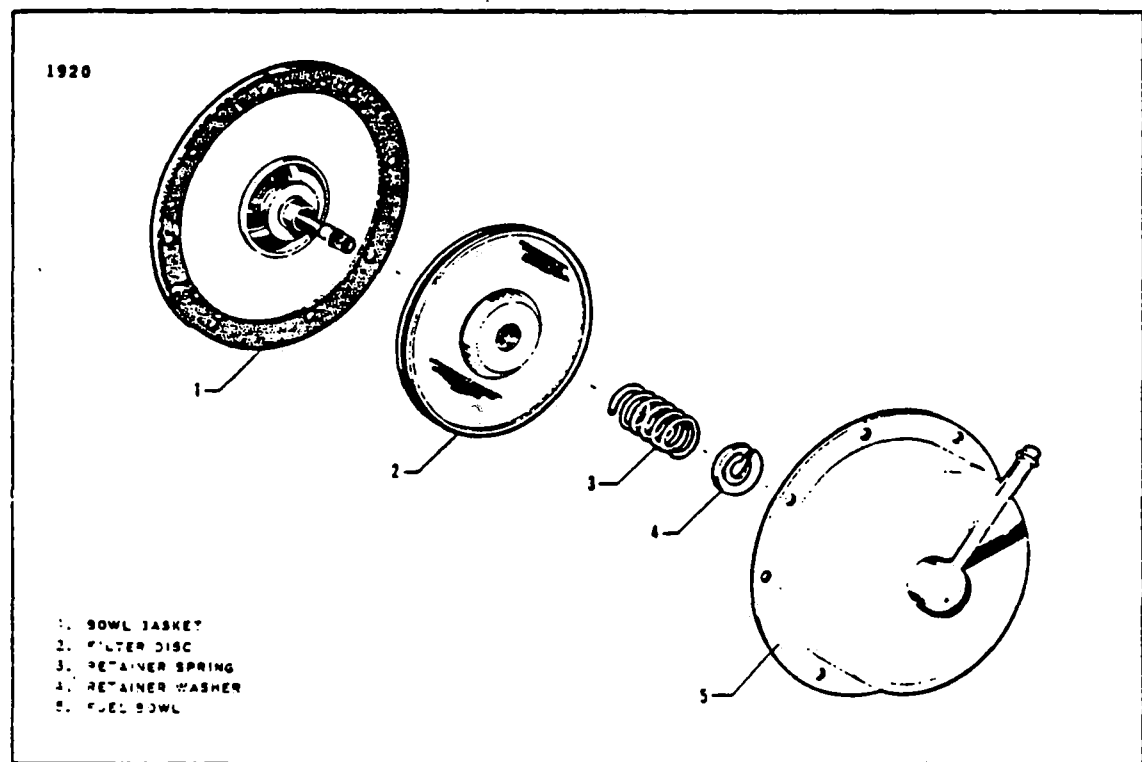
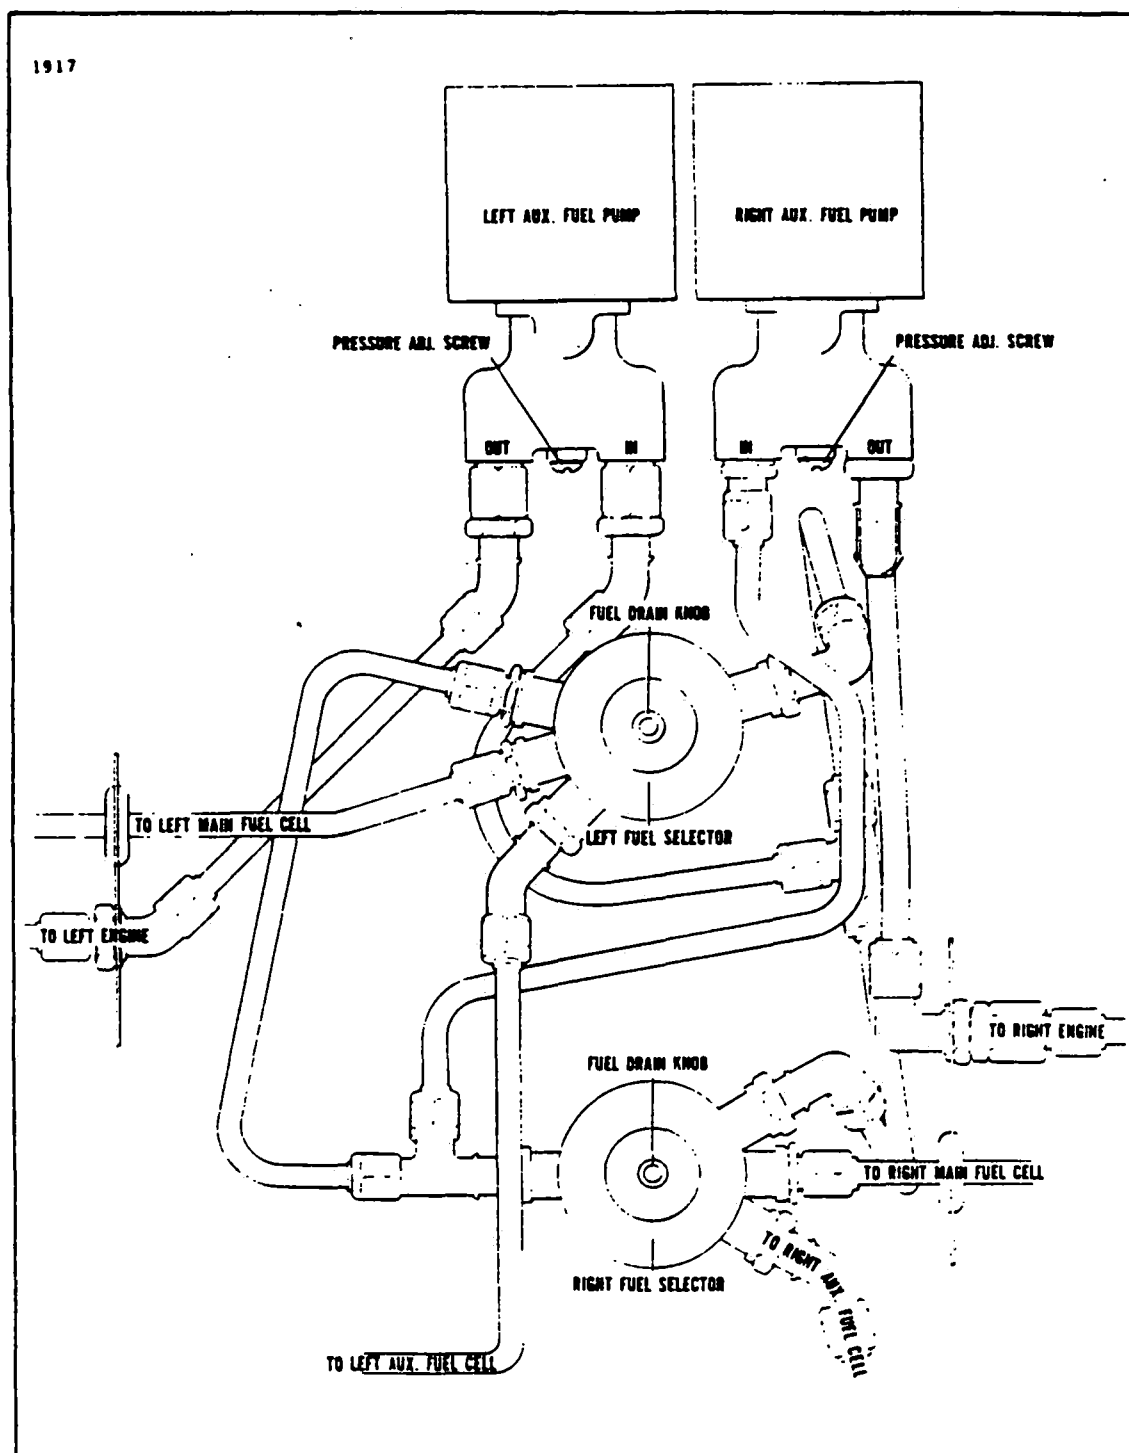

Figure 9-10. Fuel Strainer Assembly
Figure 9-11. Fuel Selector Installation
**9-20. CLEANING, INSPECTION AND REPAIR OF FUEL SELECTOR VALVE ASSEMBLY. (Refer to Figure 9-10.)**
- a. Remove the screws securing the fuel bowl (5) and separate the bowl from the valve housing.
- b. Remove the filter disc assembly (2) from stem by compressing filter retainer spring (3) and removing retainer washer (4).
- f. Inspect bowl gasket (1) and disc filter for damage and replace if necessary.
**9-21. INSTALLATION OF FUEL SELECTOR VALVE. (Refer to Figure 9-11.)**